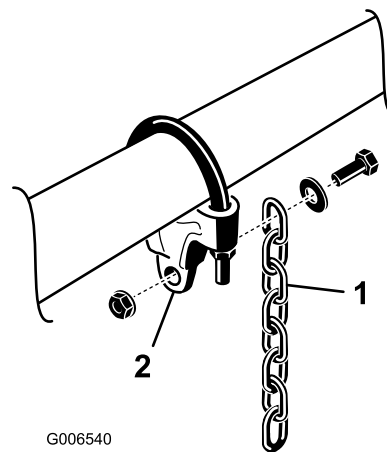

Figure 10
- Mount a lift chain to each chain bracket with a screw, a washer, and a nut, positioning them as shown in Figure 10.